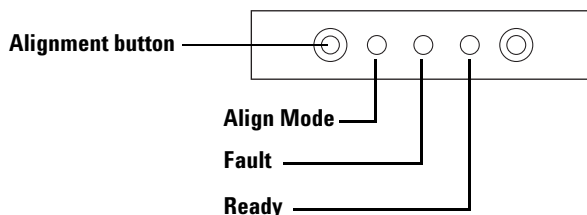

Figure 70 Align the sample tray
- 1 Use a long, narrow object (such as a pen tip) to press the recessed Alignment button to the left of the indicator lights. Avoid contact with anything behind or around the button inside the recessed hole (Figure 70).